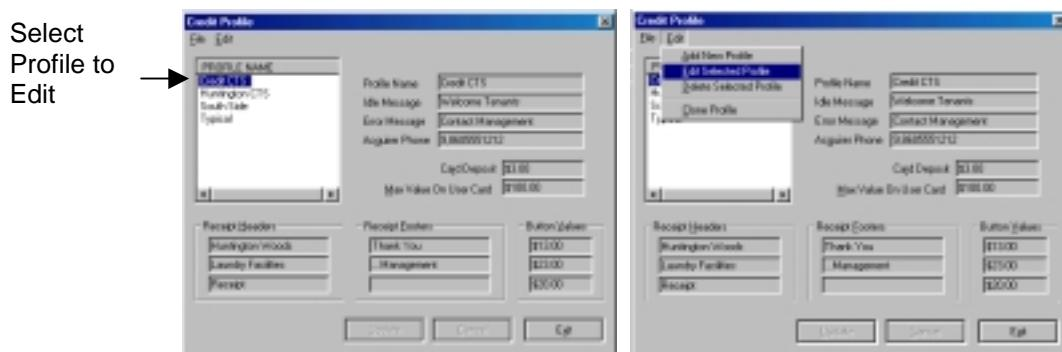

Figure 10.6 Editing a Credit CTS Profile
2. Click on the profile to edit in the Profile List Window (Figure 10.6).
3. Select Edit Selected Profile from the Edit drop-down menu (Figure 10.6).